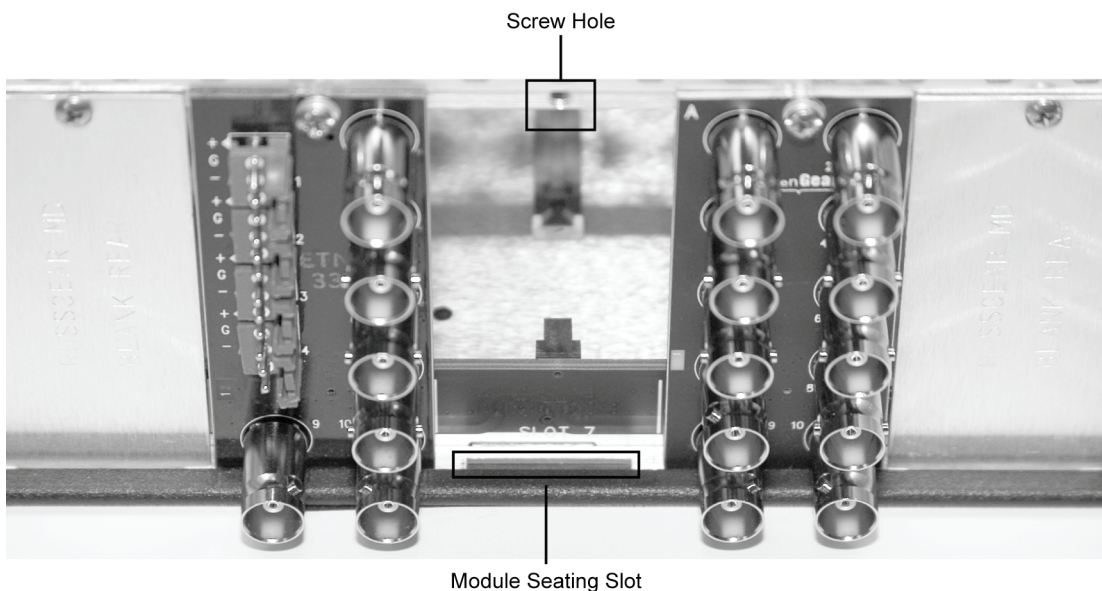

Figure 2.1 Rear Module Installation in a DFR-8310 Series Frame (TRA-8206 not shown)
4. As shown in **Figure 2.1**, seat the bottom of the rear module in the seating slot at the base of the frame's back plane.